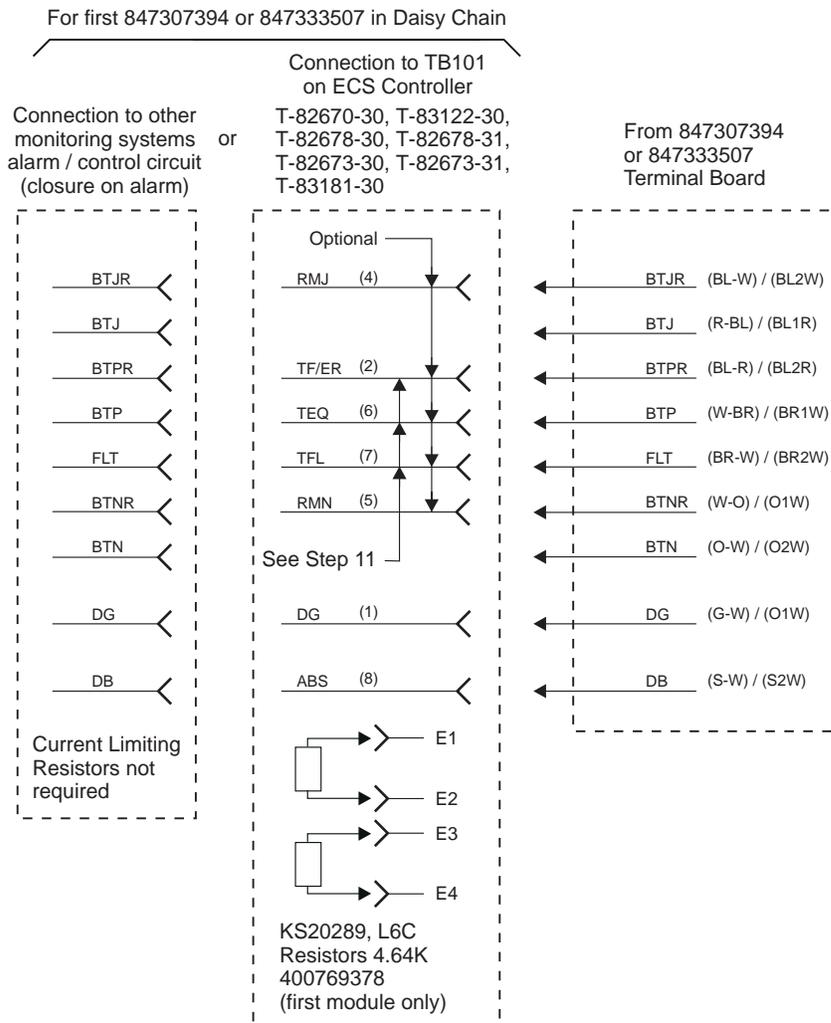

Figure 2-5: Connection to ECS Controller
8. Connect the first base (TB103 or J3) to the host control/monitoring system. For example, see Figure 2-5 for connections to a Lucent Technologies ECS controller.